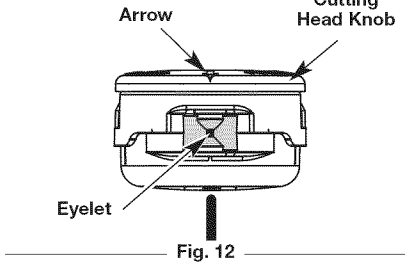

Fig. 12
1. Align the arrows on the cutting head knob with the outer spool eyelets, if they are not already. (Fig. 12)